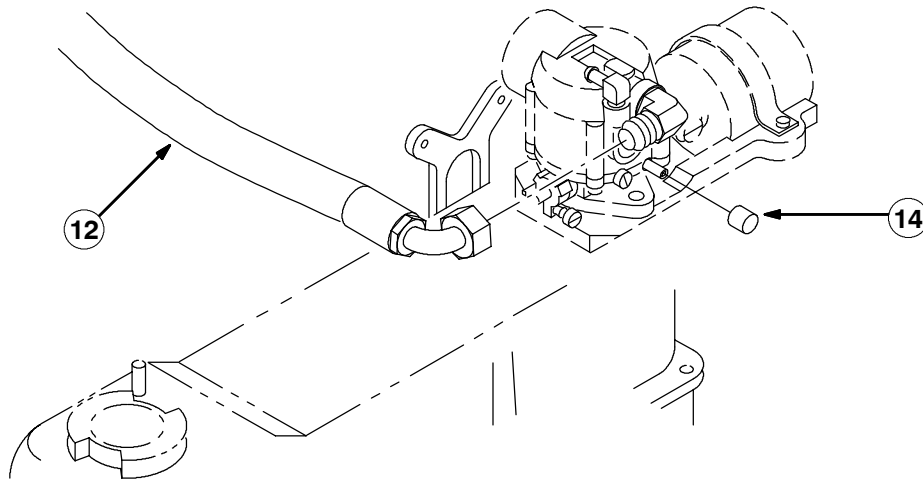

FIG. 8 - RECONFIGURATION, CARBURETOR
14. Replace LPG hose 22308-6 with new LPG hose (15). Connect the new LPG hose (15) to the 90° fitting (11442-1). Route the new LPG hose from the 90° fitting, to the new vaporizer/lockoff mounting location. (Refer to FIG. 8, 9 and 10)
18. Connect the open end of LPG hose (15), from the LPG tank T-fitting, to the 90° fitting (11442-1) in the top of the vaporizer/lockoff (5). (Refer to FIG. 8)
19. Connect the open end of LPG hose (12), from the carburetor, to the 90° fitting (12) on the side of the vaporizer/lockoff (5). (Refer to FIG. 8)